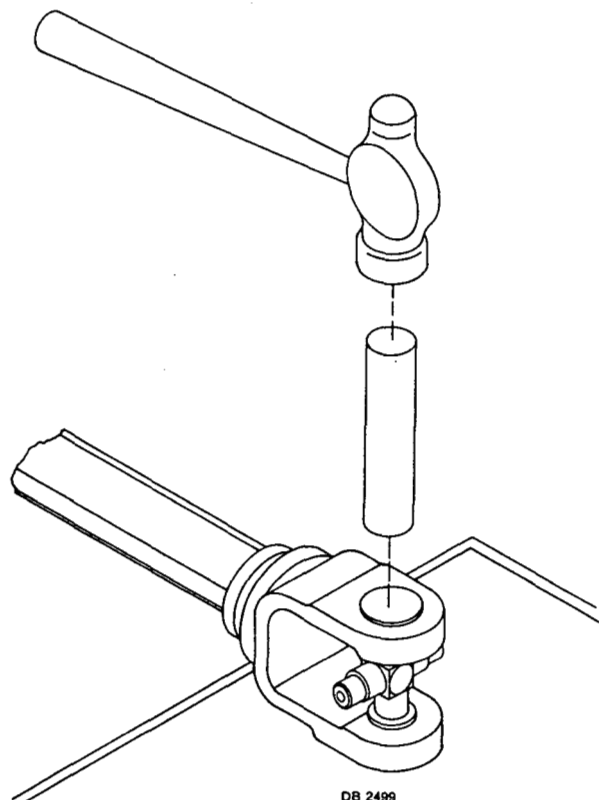

Figure 23
2. Seat cups **by** placing a drift (slightly smaller than the cup) on cup and rapping with hammer. (See figure 23.) Install snap ring and repeat on opposite cup.